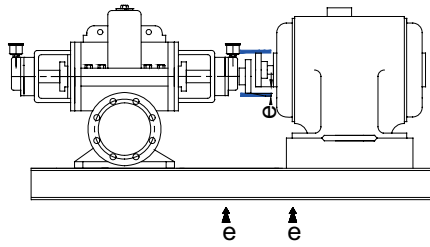

Figure 4 Parallel axis misalignment in vertical plane and its correction
1. Parallel axis misalignment (Figure 4 - 6)